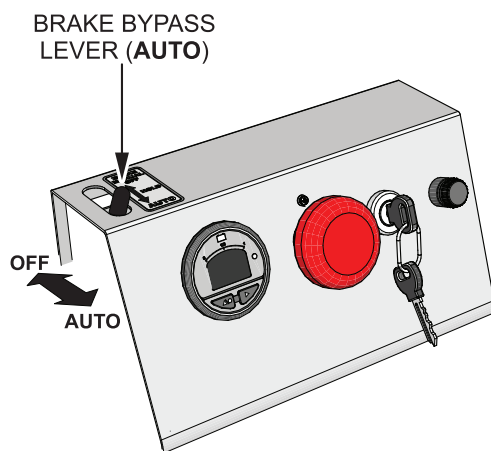

Figure 22. Brake Bypass Lever (Auto)
1. Place the brake bypass lever (Figure 22) in the **AUTO** position. If the lever is left in the **ON** (free-wheel) position, the Mini Dumper will not move when the forward/reverse speed control lever is activated.